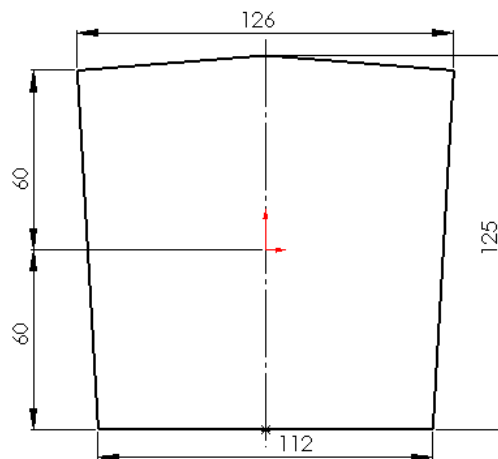

Figure 7-87 Sketch for the base feature
- Create the base feature of the model by extruding a polygon to the given depth, refer to Figure 7-87.
3. Create the sketch for the base feature and add the required relations and dimensions to the sketch as shown in Figure 7-87.